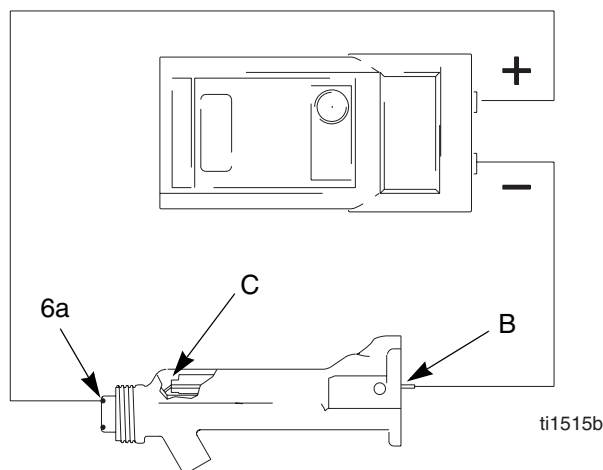

Fig. 21. Test Barrel Resistance
1. Insert a conductive rod (B) into the gun barrel (removed for the power supply test) and against the metal contact (C) in the front of the barrel.
2. Measure the resistance between the conductive rod (B) and the barrel contact ring (6a). See FIG. 21.. The resistance should be 19-29 megohms. If the resistance is incorrect, make sure the metal contact (C) in the barrel and the barrel contact ring (6a) are clean and undamaged.
3. If the resistance is still outside the range, remove the barrel contact ring (6a) and measure the resistance between the conductive rod (B) and the wire lead at the bottom of the contact ring groove.